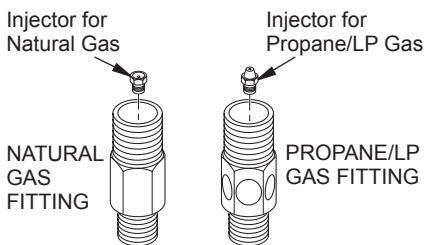

Figure 11 - Burner Inlet Fittings with Injectors
2. Use 10 mm socket to remove the orifice (see Figure 11, page 6). Replace with the proper orifice for your log set. See technical information charts in Figure 1 on page 2.
1. Remove the burner inlet fitting from the burner pan assembly. **DO NOT** remove the orifice from this fitting. The propane/LP burner inlet fitting is included in the hardware kit (see Figure 11).